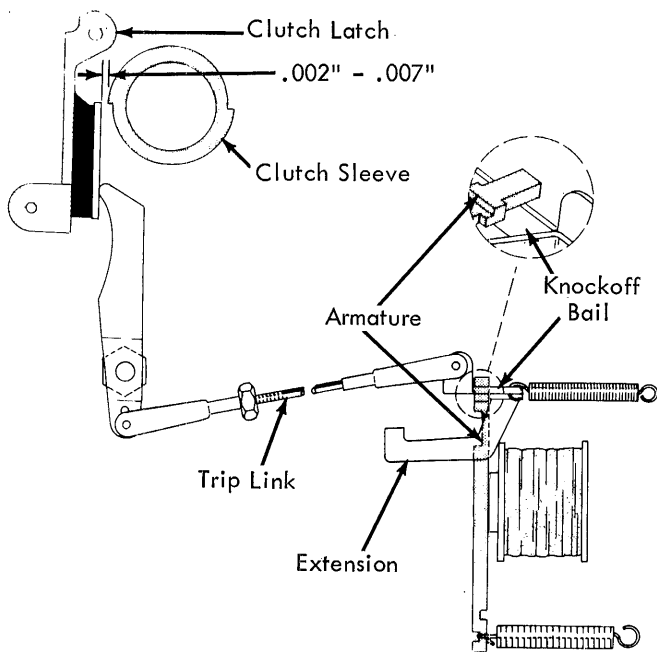

FIGURE 38. Early-Style Cycle-Clutch Trip-Link Adjustment
1. Trip Link (Fig. 38) - Hold a print magnet armature attracted and adjust the cycle clutch trip link clevis to move the cycle clutch latch .002" to .007" away from the clutch sleeve.